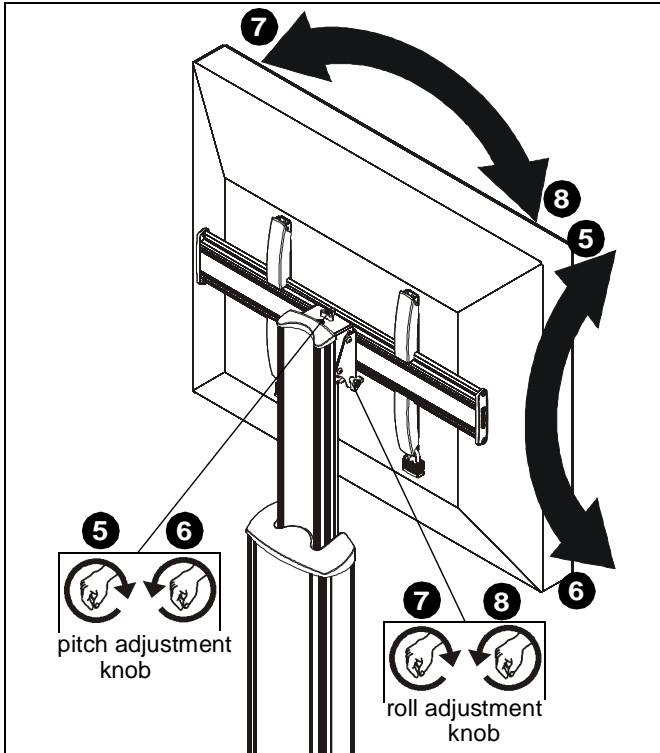

Figure 17
5. Turn pitch adjustment knob clockwise to tilt display forward. (See Figure 17)
6. Turn pitch adjustment knob counterclockwise to tilt display back. (See Figure 17)
7. Turn roll adjustment knob clockwise to adjust roll to the left. (See Figure 17)
8. Turn roll adjustment knob counterclockwise to adjust roll to the right. (See Figure 17)